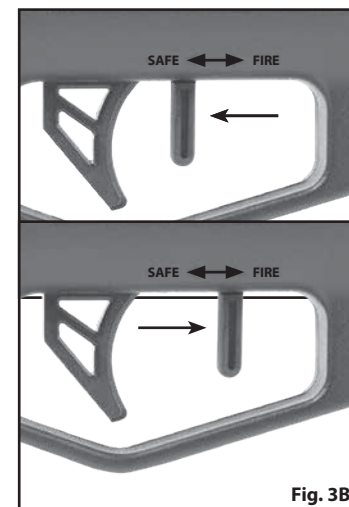

Fig. 3B
- The Safety lever is in the FIRE position and "OFF SAFE" when the Safety lever is in the forward position "FIRE"; and it cannot move forward any further (Fig. 3B).